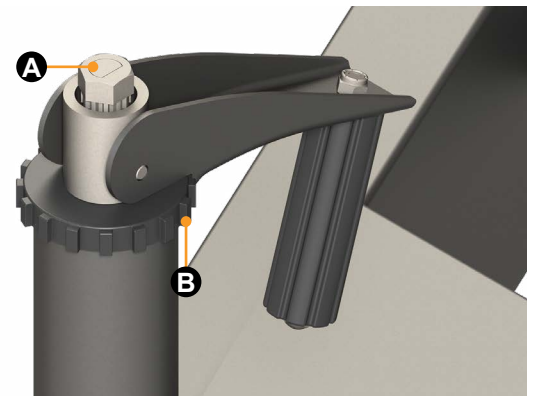

Fig.4
1. Make sure the crank handle is in its stored position (Fig.4).
2. After desired tongue jack height is achieved, flip the crank handle over into its stored position (**Fig.4**). The crank handle will engage the ribs of the cap (**Fig.4B**).
4. Make sure the crank handle is in its stored position (**Fig.4**).